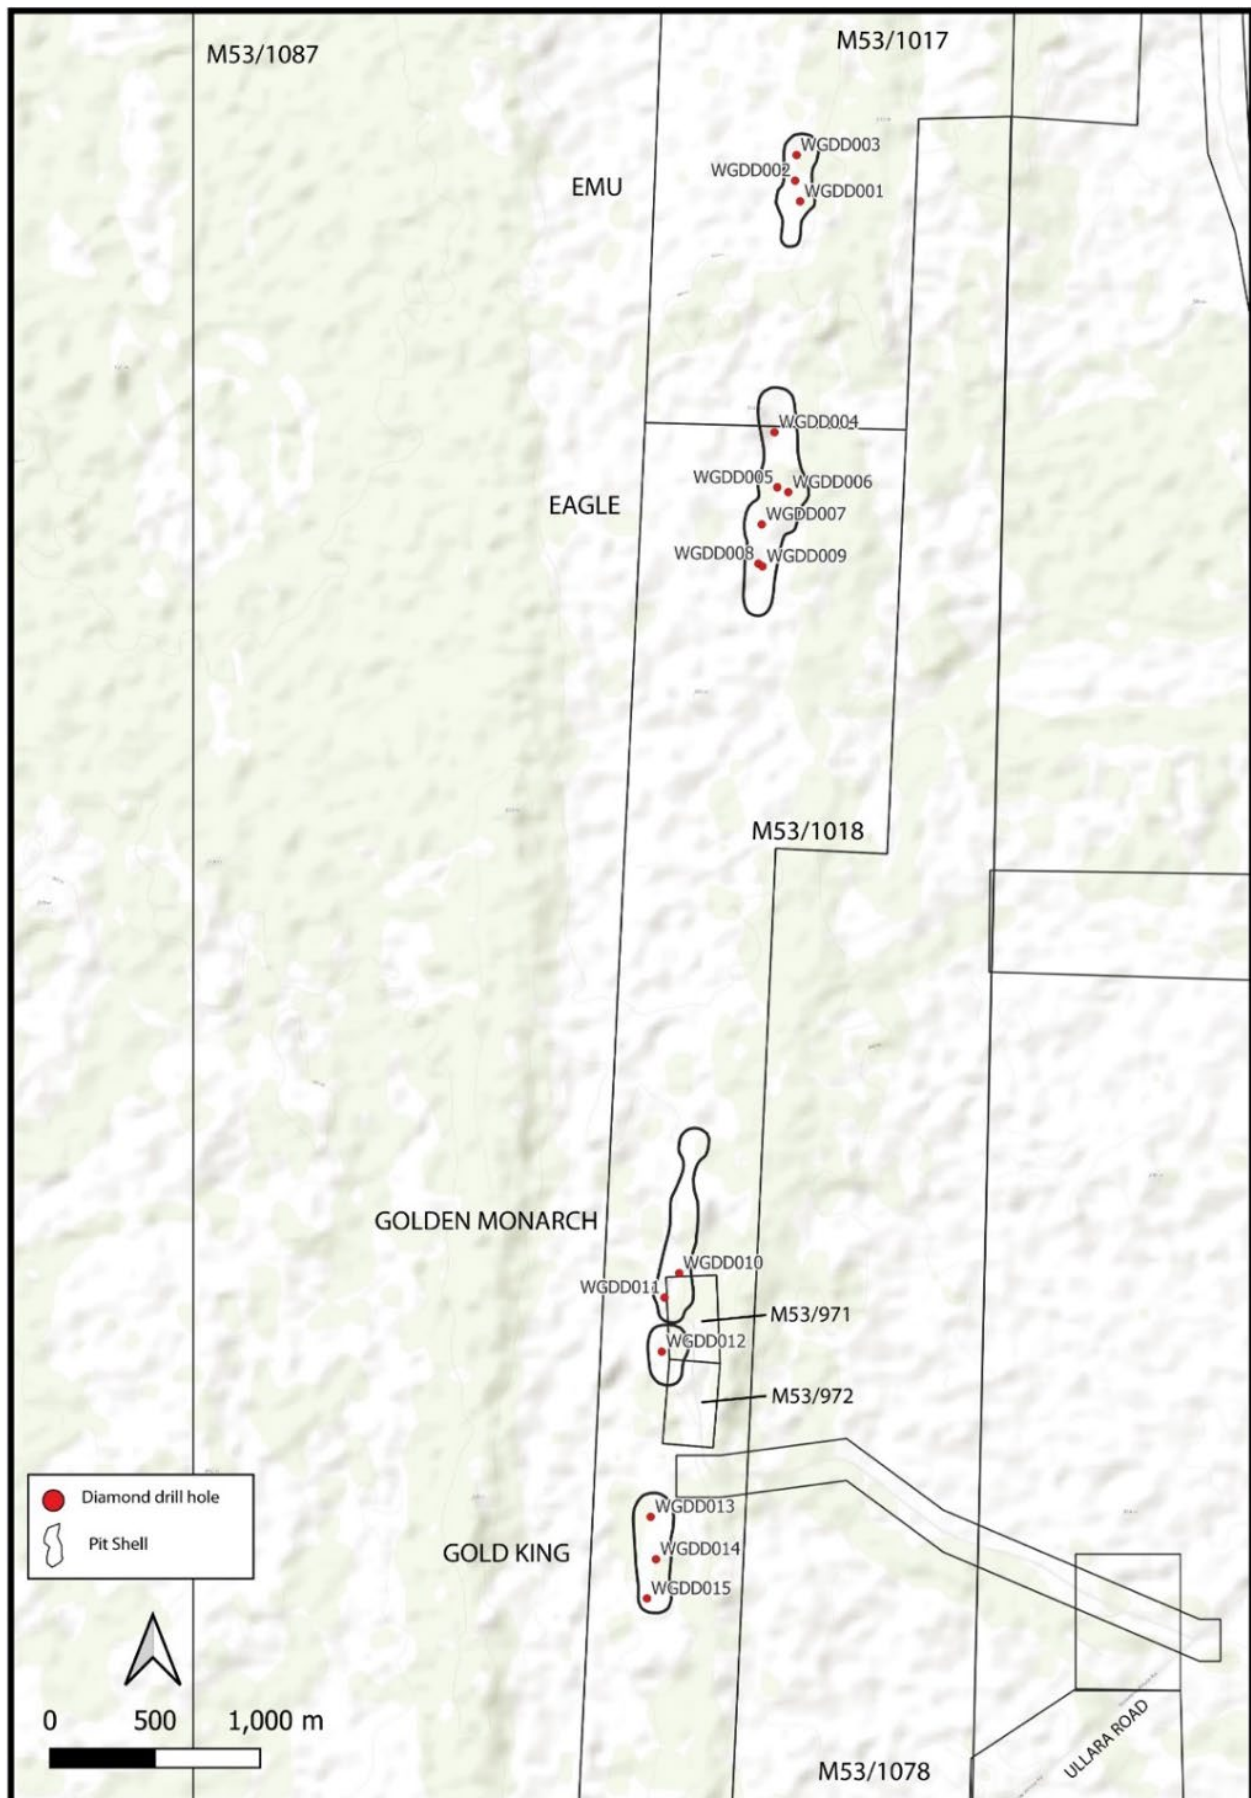

Figure 1. Gold Duke optimised pit outlines and diamond drill hole locations.
WGR recently released a Scoping Study (Study) for the Gold Duke Project. The Study indicated that the project could deliver a Pre-tax NPV of approximately A\$38m with an IRR of 617% at AU\$3,500 gold price. The metallurgical program aims to provide details across all optimized pit areas (Figure 1) contained in the scoping study.²
Five (5) composite samples from 12 drill holes were selected from across the Gold Duke Project, including all four prospects of Gold King, Golden Monarch, Eagle North and South, and Emu (Figure 1, Table 1 & 4). Drillhole details and individual assay data for each metre interval for all composites are presented in Table 4. All samples are from representative mineralised BIF zones within the preliminary optimised pit shells.
WGR continues make progress with discussions in relation to both toll milling and mining of the assets (See ASX announcement 15th February 2024). As part of these discussions, WGR has provided pit samples from the Golden Monarch pit (Figure 1) to a processing plant for metallurgical test work including bottle roll testing, and tailings characterisation.